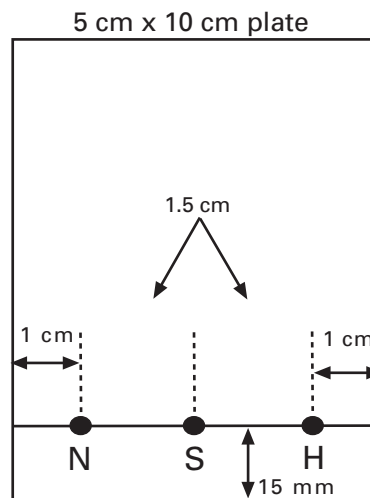

Figure 1
- Each group or pair of students should prepare a thin layer chromatography plate for the next day’s activity. Turn the plate white-side-up. Use the ruler to make a **very light** line 15 mm from one side of the plate, as shown in figure 1. It is important to use a pencil to draw lightly on the plate. Alcohol dissolves ink which would migrate up the plate, staining it.